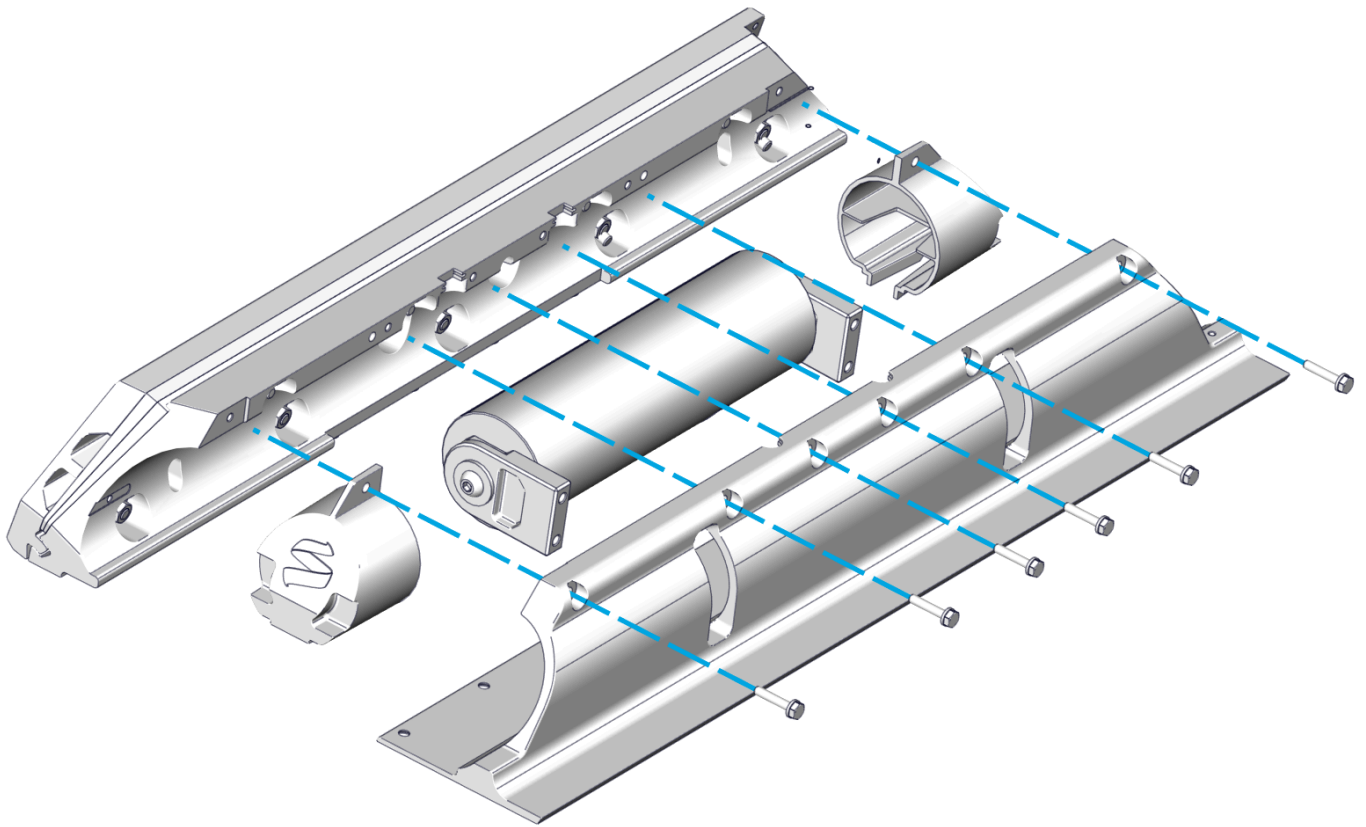

Figure 67 – Dual Actuator Seal Plate Screw Installation
- On Dual Controller systems the 2 supplied plastic debris caps will need to be inserted between the Seal Plate and Actuator Plate at this stage. See Figure 67 below.
3. Apply thread locker and thread in the top four (4) M6-1.0 x 30 mm Hex Head Bolts with M6 Washers to align the Seal Plate with the Wedge Pack Assembly, but **do not tighten**. There should be a small gap (about 2 mm) between the top of the Seal Plate and the Actuator Plate. (Quantity six (6) bolts for Dual Controller systems)
- On Dual Controller systems the two (2) supplied plastic debris caps will need to be inserted between the Seal Plate and Actuator Plate at this stage. See Figure 67.